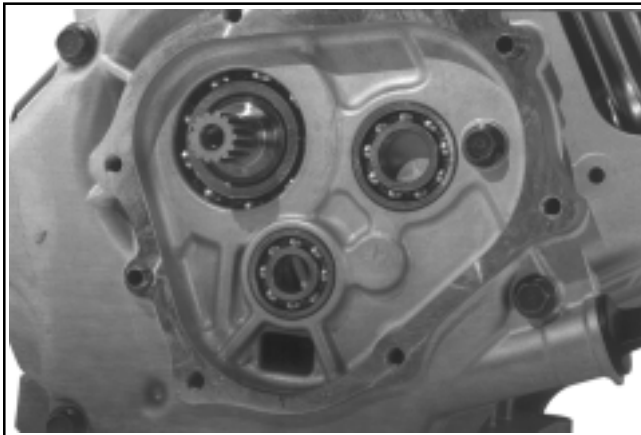

Figure 9-73. Removing Dowel Pins and Gasket.
- Remove the dowel pins and gasket. Clean the gasket surfaces with a cleaning solvent or aerosol type gasket remover. **Do not nick or scrape the sealing surfaces.** See Figure 9-73.